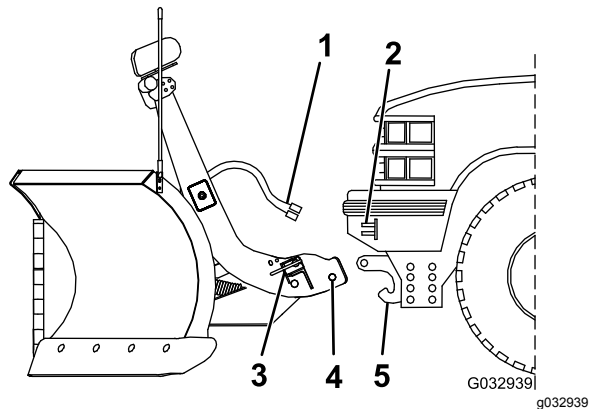

Figure 25
3. Line up the vehicle with the snowplow and slowly drive forward until the lower pin contacts the push-beam pin receiver (Figure 25).
5. Remove the electrical-plug dust covers and connect the plow wire harness to the vehicle wire harness (Figure 25).